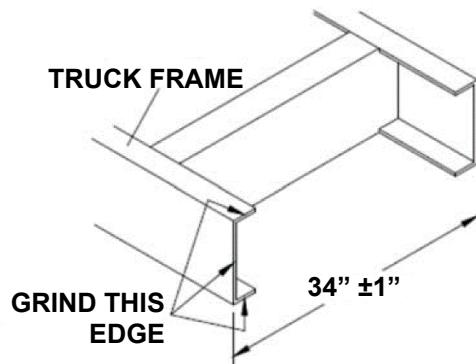

Figure 9
- Start by grinding the inside and outside of the frame ends to prepare for the weld (Figure 9).